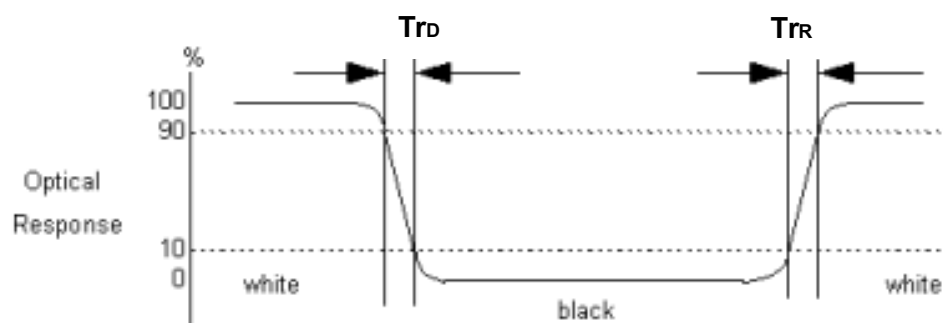

Fig.4-3 Response time
4. Response time is the time required for the display to transition from white( $L_{255}$ ) to black( $L_0$ ) (Decay Time,  $T_{rD} = T_f$ ) and from black( $L_0$ ) to white( $L_{255}$ ) (Rise Time,  $T_{rR} = T_r$ ). For additional information see FIG4-3.